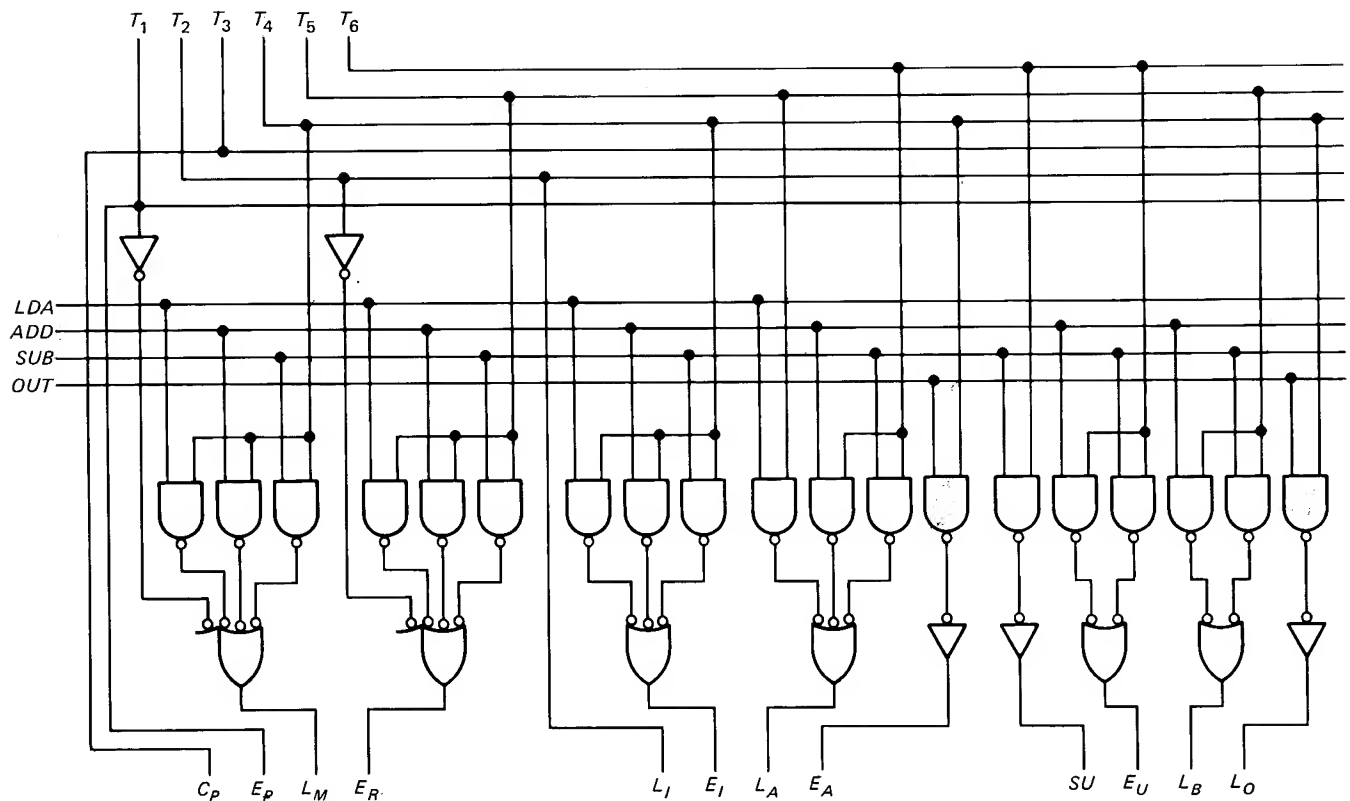

Fig. 3-35 Control matrix.
- 3-26. Figure 3-35 shows the control matrix discussed in Example 3-3. Only one of the timing signals T_1 to T_6 is high at a time. Also, only one of the instructions, LDA to OUT , is high at a time. Which are the high outputs for each of the following conditions?